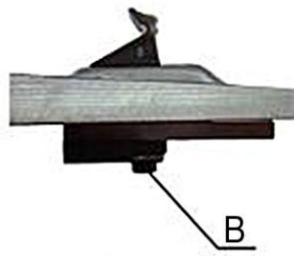

Fig. 15
- Check the bolts under the turntable (Fig. 15-B) monthly tighten and adjust if necessary.